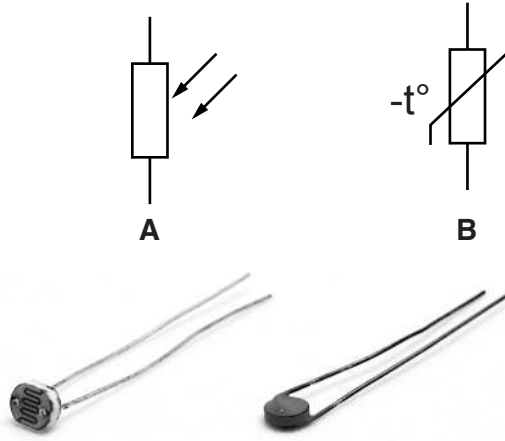

Fig. 1
- 1 (a) Fig. 1 shows two sensing components with their circuit symbols. Name each component.